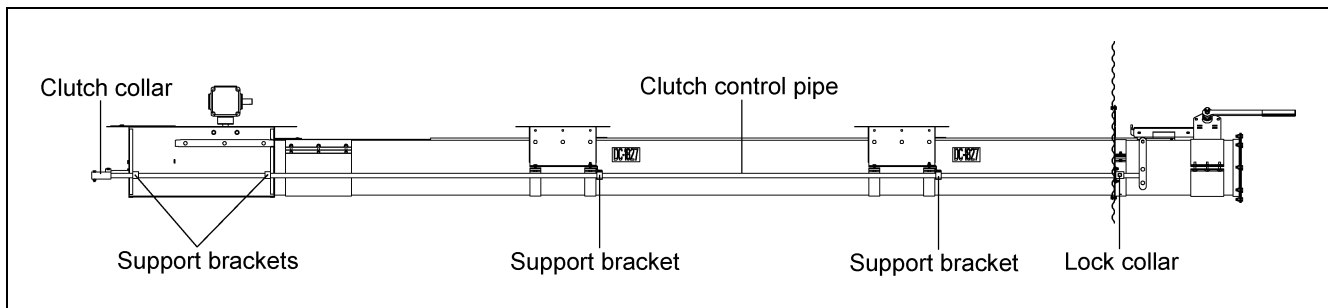

Figure 4S
- Slide the clutch control pipe through the bin flange and the support brackets on the intermediate and center wells. Slide the clutch control pipe into clutch collar on the center well. (See Figure 4S and Figure 4T.)